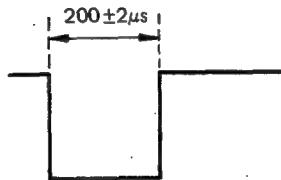

Figure 8-22.
3. Selecting (-) sync slope with the oscilloscope, adjust R2016 to meet the requirement given in Figure 8-22.